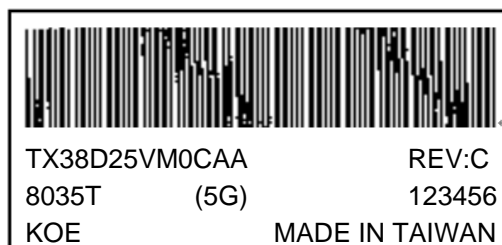

Fig 13.3
- 1) The lot mark is showing in Fig.13.3. First 4 digits are used to represent production lot, T represented made in Taiwan, and the last 6 digits are the serial number.
- 4) The location of the lot mark is on the back of the display shown in Fig. 13.3.